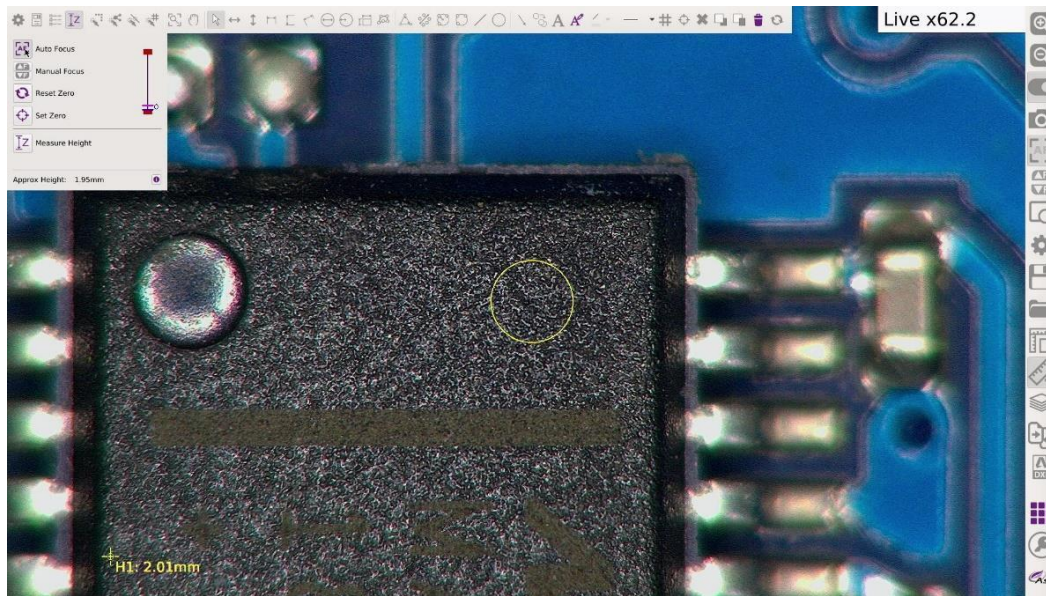

Fig. 28
8. Click the “Measure Height” button. The camera will once again refocus, and an actual measurement will generate and display at the bottom left of the FOV (see Fig. 28)